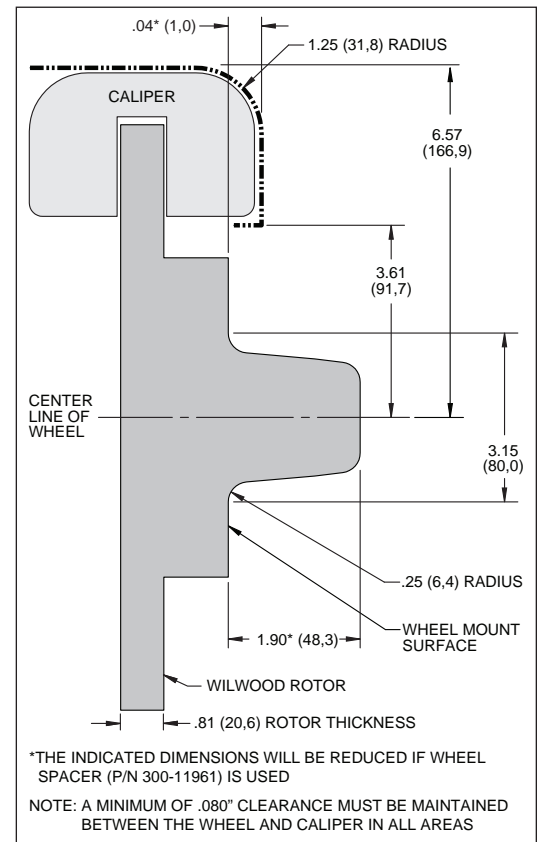

Figure 2. Wheel Clearance Diagram
- Review the Wheel Clearance Diagram (Figure 2, page 4) to verify that there is adequate clearance with the wheels you will be using with the installation.
- Verify wheel clearance using Figure 2.
- WARNING:** *The wheel contact surfaces must seat completely on the face of the hub.* If any contact surfaces overhang the outside diameter of the hub face, a 6.60" diameter x .20" thick steel spacer (item 24, Wilwood P/N 300-11961) **MUST** be used between the wheel and the hub.